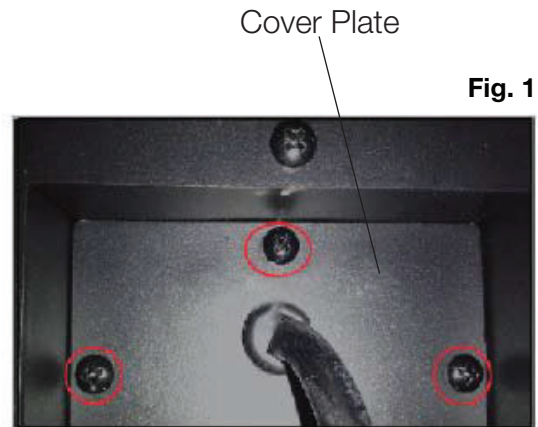

Fig. 1
- Remove the cover plate from the bottom right side of the appliance by removing the three screws (**Fig. 1**).
- Reinstall the cover plate using the three screws previously removed in Step A (**Fig. 1**).